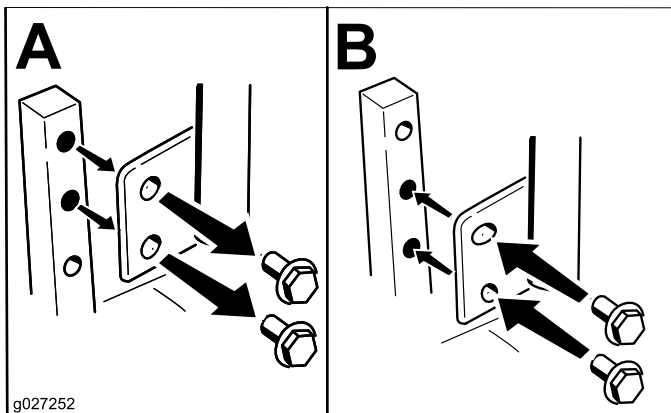

Figure 19
You can adjust the motion-control levers higher or lower for maximum comfort (Figure 19).
2. Loosen the lower bolt just enough to pivot the control lever forward or rearward (Figure 19).